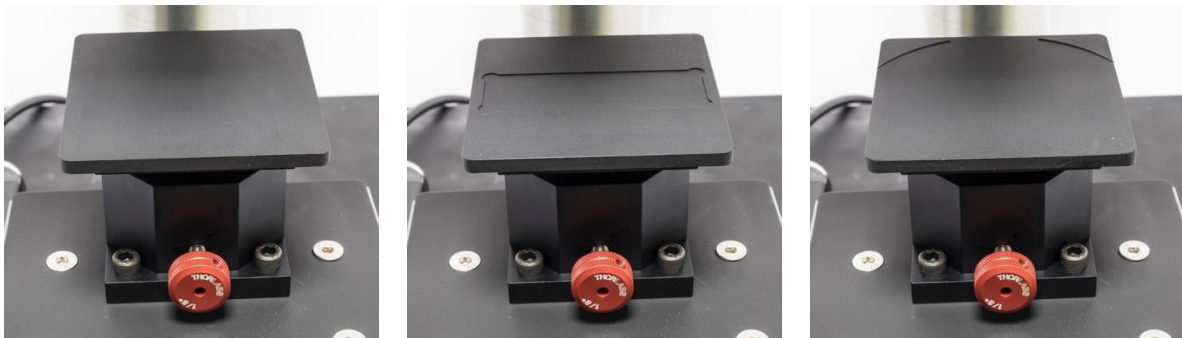

Figure 6 – From left to right: flat holder, microscope glass slide holder and 4" wafer holder
This module is provided with an interchangeable flat holder (Figure 6 left). Two other substrate specific holders can be alternatively used (separate order):
- For standard microscope glass slides (25 mm x 75 mm) > Figure 6 middle
- For 4 inches (100 mm) circular wafers with notch or slab > Figure 6 right
The wafer holder must always be placed as shown in Figure 6 right with the wide curved part toward the head's column. If the holder is not correctly positioned, there is a risk of contact between the wafer and the column that may cause damages to the substrate or to the motorized XY stage if equipped.